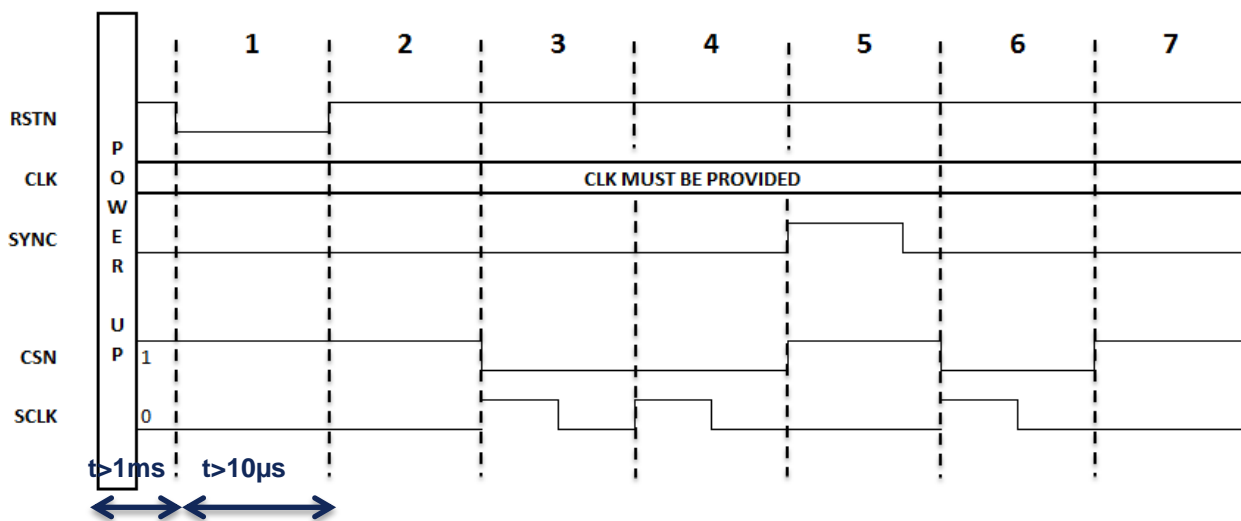

Figure 11: Start-up sequence when using the SPI interface
Figure 11 presents the reset and synchronization to realize after power-up when the SPI interface is used (see section Serial Peripheral Interface for more information on the SPI interface).
5. A pulse is applied onto the SYNC input to reset the internal clocks (SYNC signal in Figure 11). At this stage the bit 7 of register CHIP\_CTRL must be at '0' (trigger mode disabled) – see section SYNC input;